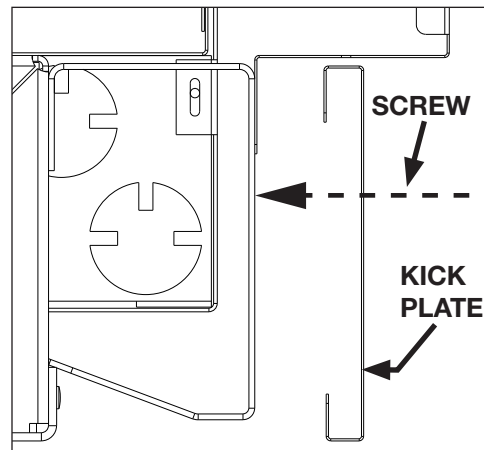

Fig. 2 Attaching the kick plate
4. Attach the kick plate to the retainer using the screws provided (Fig. 2).